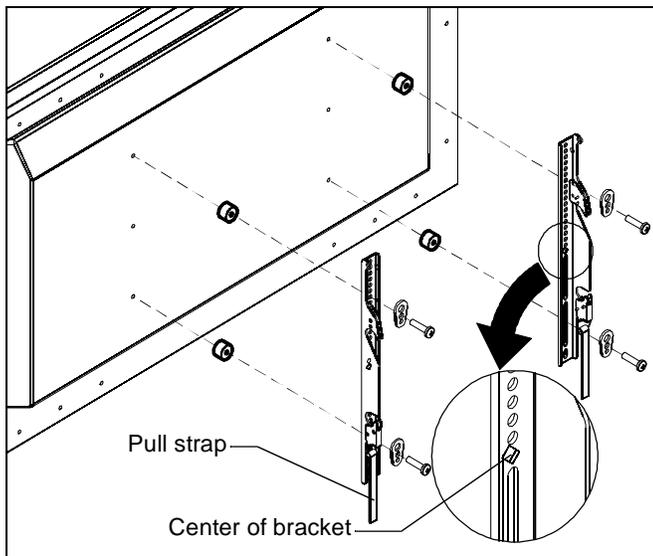

Figure 5
1. Align the center of the bracket with center of screen. (See Figure 5)
2. Select correct screws, spacers (if necessary) and washers from the hardware bag and attach brackets to back of screen. (See Figure 5)